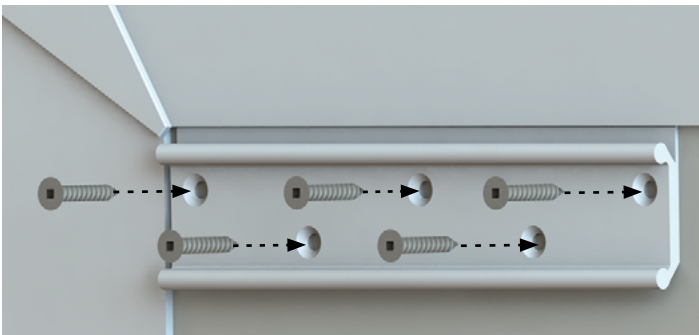

Fig.10
3. Fasten the mounting bracket to the slide-out exterior wall using the five provided #10 -13 x 1 ¼" recessed square head screws (Fig.10).